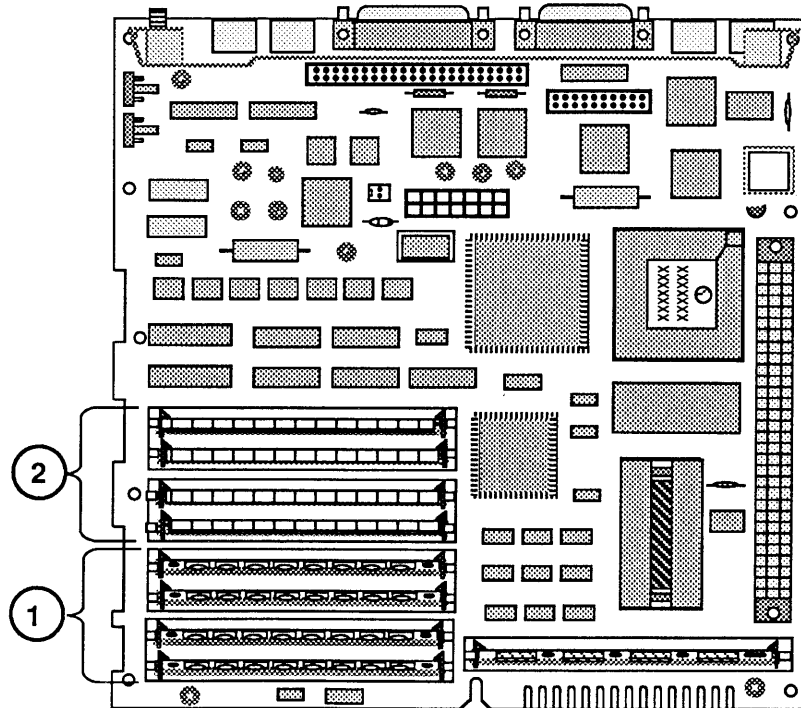

FIGURE 15
4. Install four 256K SIMMs in Bank B (Figure 15, #2).
- a) Remove four 256K SIMMs from Bank A (Figure 15, #1) and install them in Bank B (Figure 15, #2).
5. If the Macintosh SE/30 has **4 megabytes of RAM**, install four 256K SIMMs in Bank B (Figure 15, #2).
- a) Remove the four 256K SIMMs from Bank A (Figure 15, #1), place them in an antistatic bag, and return them to the customer.
5. If the Macintosh SE/30 has **4 megabytes of RAM**, install four 1 MB SIMMs in Bank B (Figure 15, #2). Leave the other four 1 MB SIMMs in Bank A.